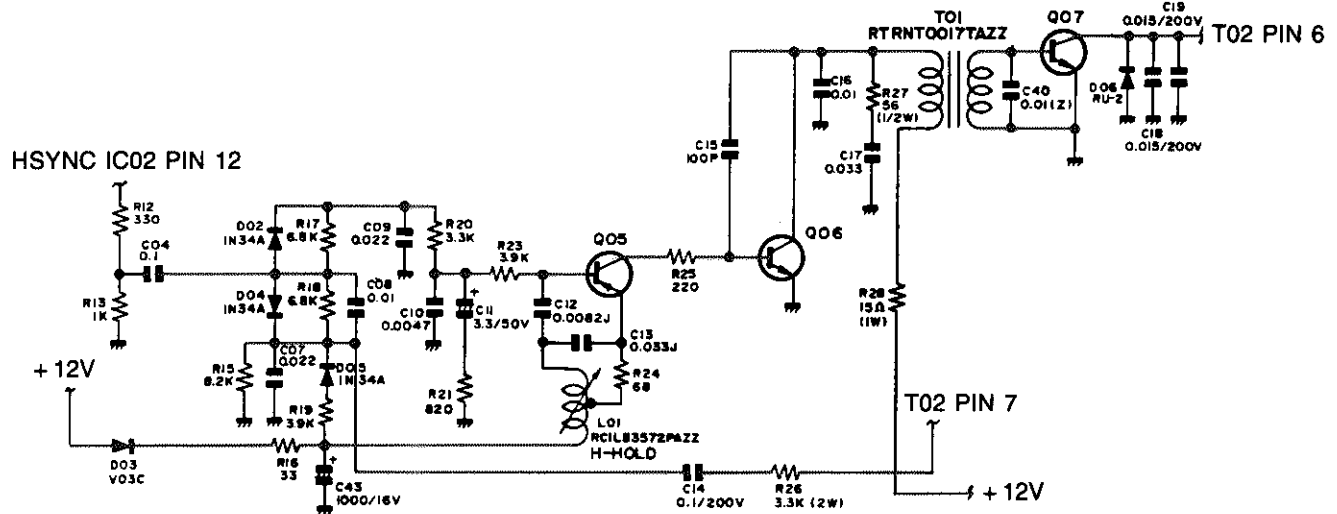

FIGURE 2-106. HORIZONTAL DEFLECTION CIRCUIT
2.8.2 Horizontal Deflection Circuit (Figure 2-106)